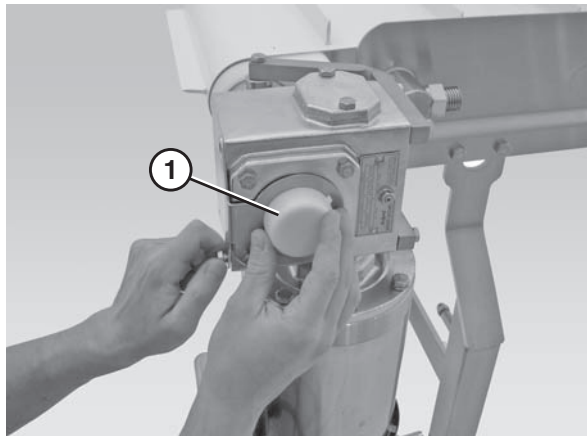

Figure 19
6. Attach the drive spindle cover (Figure 19, item 1).